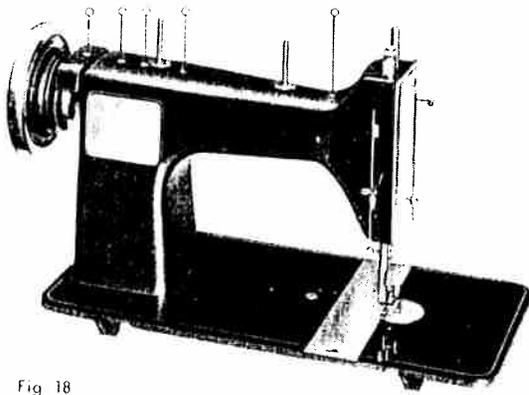

Fig 18
1. The Head (Fig. 18, page 18), after slackening off the retaining screw and removing the head cover plate.
2. The Arm (Fig. 18, page 18), after slackening off the screw and sliding the nickel-finished plate at the back upwards.